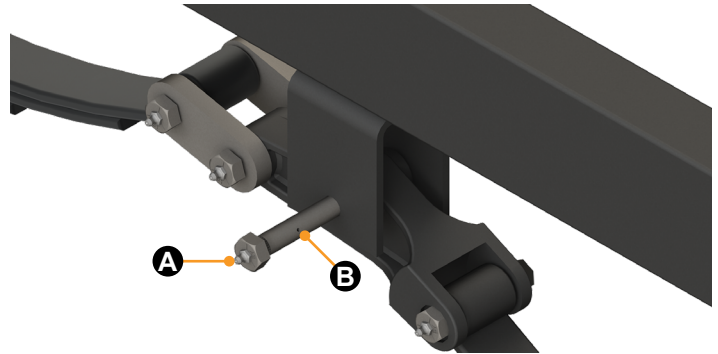

Fig.15
A. Continue to hand-tighten wheel lug nuts in the sequential pattern shown in figure 15.
B. After wheel lug nuts are fully hand-tightened, torque nuts in stages and in the sequential pattern shown in figure 15.